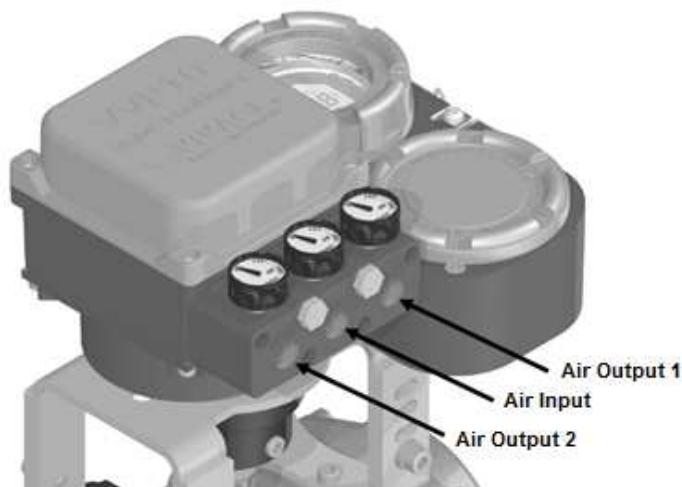
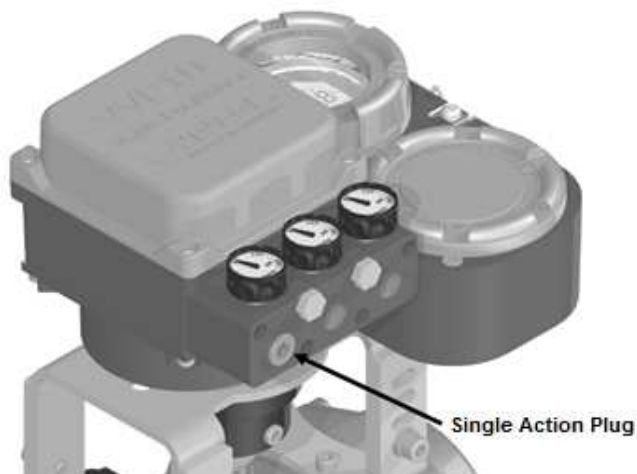

Figure 2.3 – Pneumatic connections for VVP10-P.
Figure 2.4 – Plug for single action.
Figure 2.3 identifies the input and output connections for the supply air that will move the positioner. When the positioner is used in a single action set, simply close output 2 using the supplied plug (item 13 in figure 4.1), turning the valve into a 3-way system (figure 2.4).